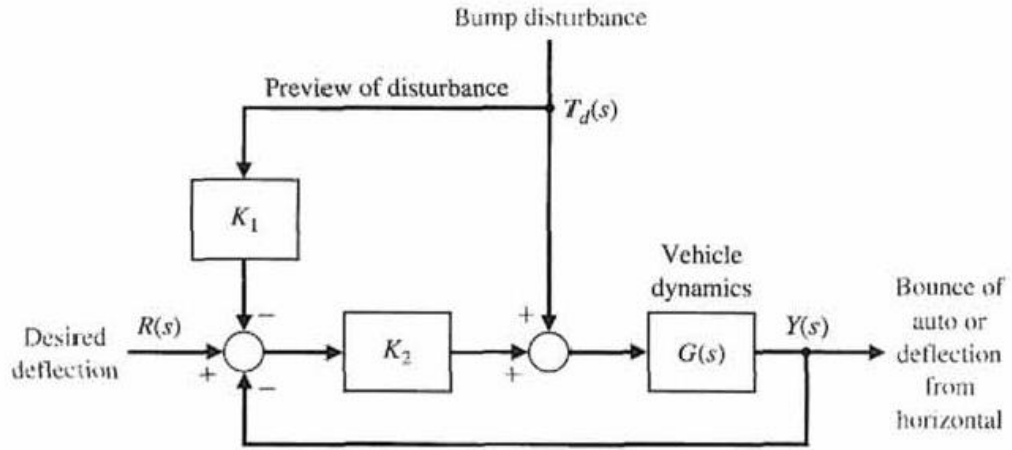

FIGURE E2.12 Active suspension system.
5. Off-road vehicles experience many disturbance inputs as they traverse over rough roads. An active suspension system can be controlled by a sensor that looks "ahead" at the road conditions. An example of a simple suspension system that can accommodate the bumps is shown in Figure E2.12. Find the appropriate gain K_1 so that the vehicle does not bounce when the desired deflection is $R(s) = 0$ and the disturbance is $T_d(s)$.